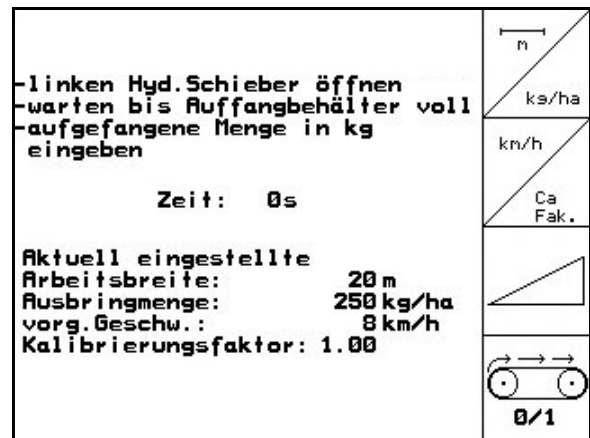

Fig. 54
1. (Fig. 54) Switch on the belt conveyer, thereby filling the fertiliser antechamber.